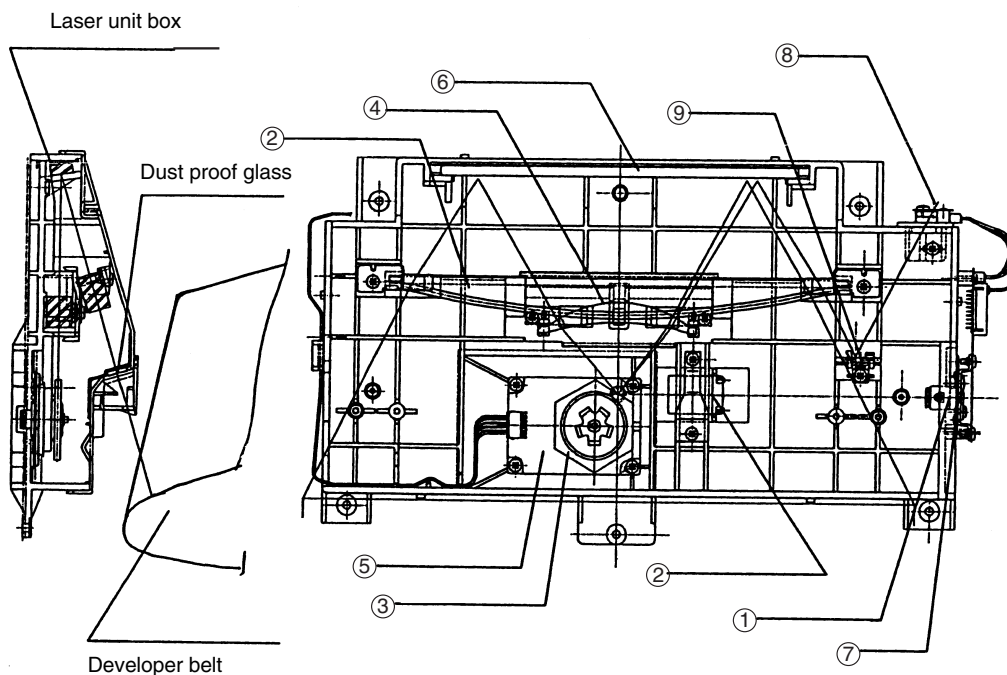

Fig. 4-24
(1) Structure of the Scanning System (Refer to Fig.4-24.)